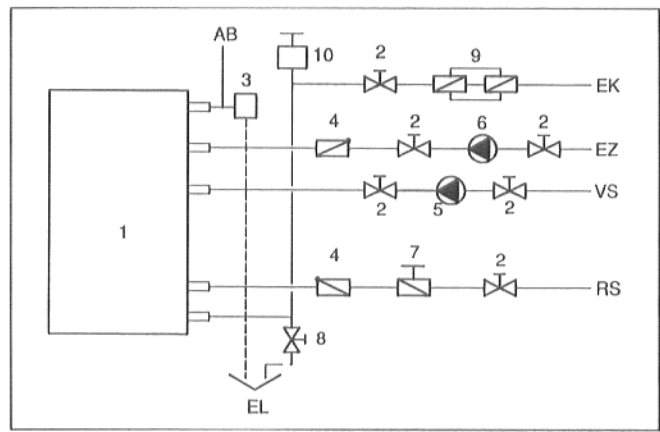
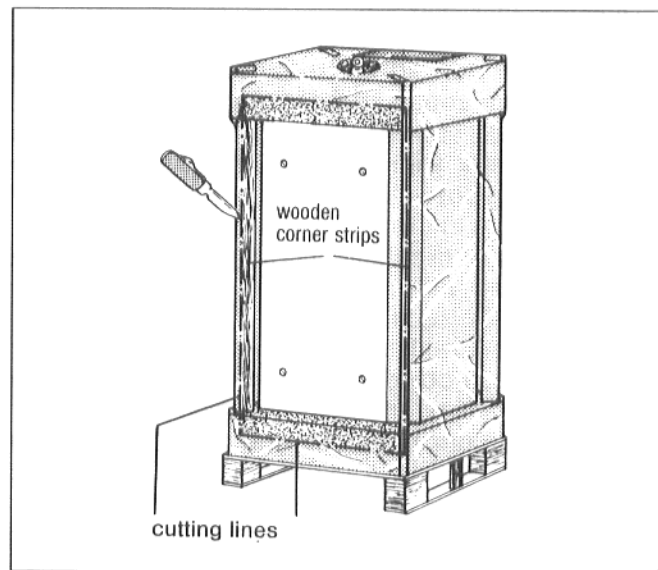

Fig. 10
Fig. 15
An approved and properly sized pressure and temperature relief valve must be installed as shown in Fig. 10. It is important that the P&T relief valve discharge line be piped directly to a drain without any shutoff valves or restrictions, and that the discharge line be the same diameter as the connection on the P&T valve.
NOTE: The hoisting ring (Fig. 15 on page 8) must be removed from the recirculation connection EZ before filling the tank. Connection fitting EZ must either capped or piped to a recirculation line as shown in Fig. 10.
- Cut out the packaging film on the side opposite the sticker "Boiler-Storage tank connection" according to Fig. 15 and remove only the cut-out.